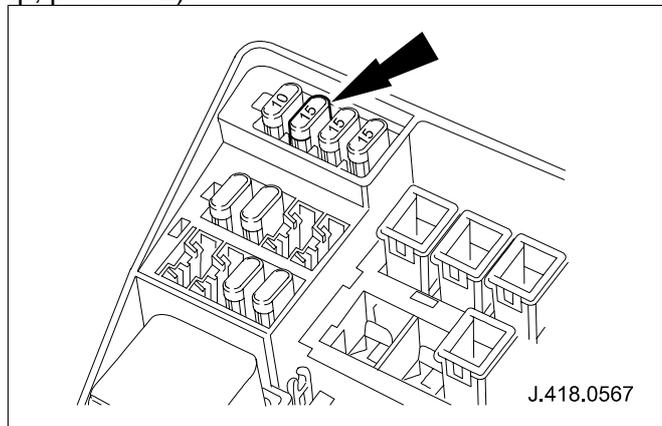

Fig. 1
- 4 Install up-rated windscreen washer pump fuse (15amp, position 2). (See Fig. 1)